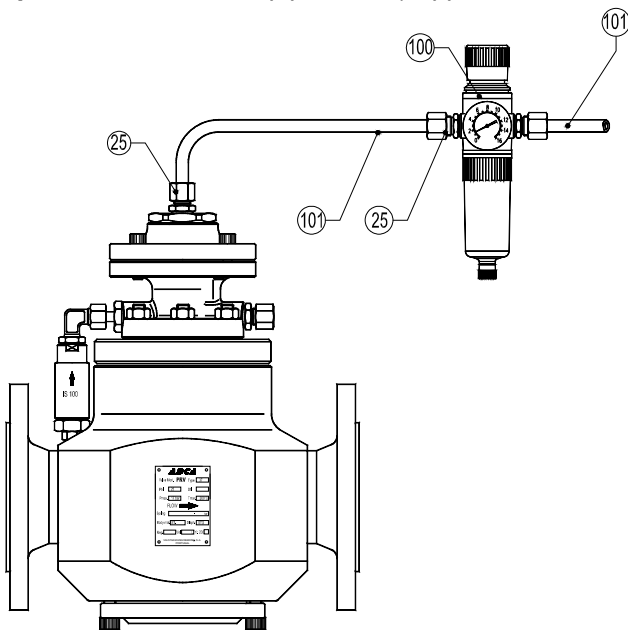

Fig.5
**PRV47 valve with compressed air top for remote control (Fig.5)**